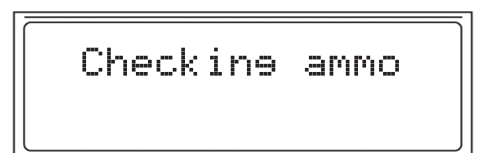

Fig. 19
- The internal hopper will start rotating and dispense any remaining ammo through the chute. The messages on the LCD will indicate the status (*Fig. 19*).